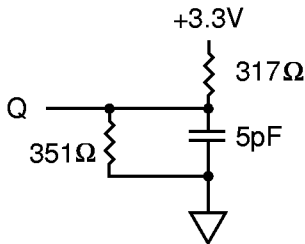
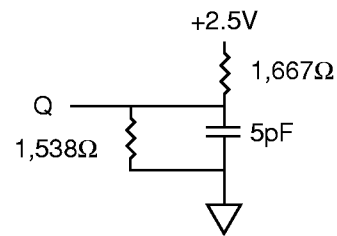

Figure 2
Figure 4
- The load used for V_{OH}, V_{OL} testing is shown in Figure 2. AC load current is higher than the shown DC values. AC I/O curves are available upon request.
4. This parameter is measured with output loading as shown in Figure 2 for 3.3V I/O and Figure 4 for 2.5V I/O.